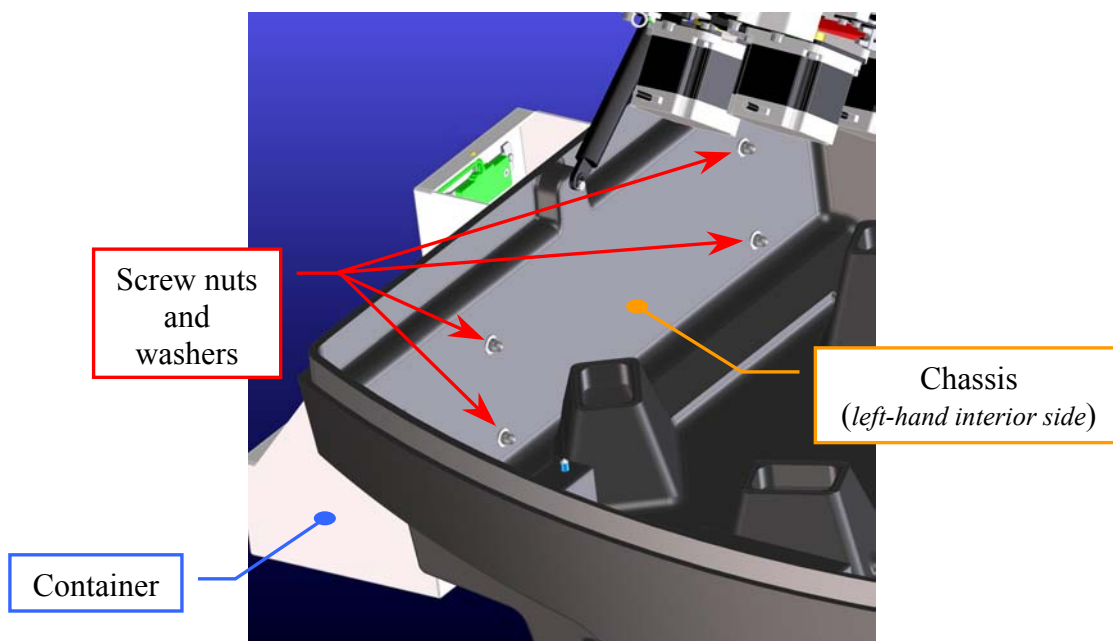

Fig. 3 – Container installed on the instrument
5. Put the four washers on the threaded pins from the left-hand interior side of the instrument (**Fig.3**).
6. Screw completely the four screw nuts on the threaded pins from the left-hand interior side of the instrument (**Fig.3**).